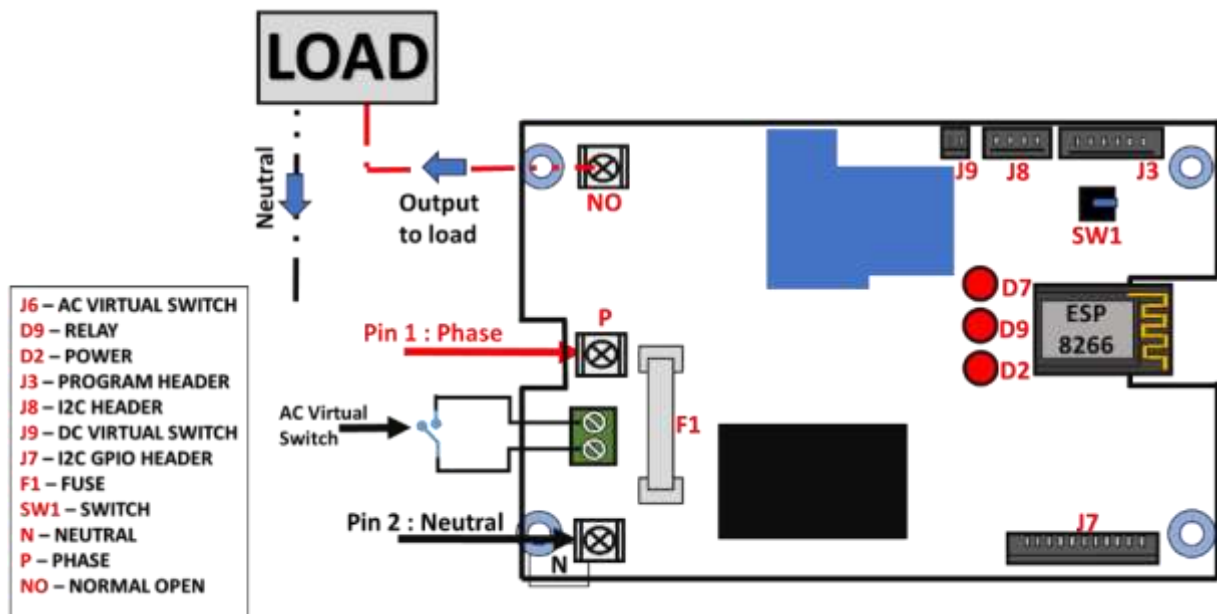

Figure 6: Details Load connection diagram
8. Once the device Powered ON, it will host an access point as shown in Figure 6 below: